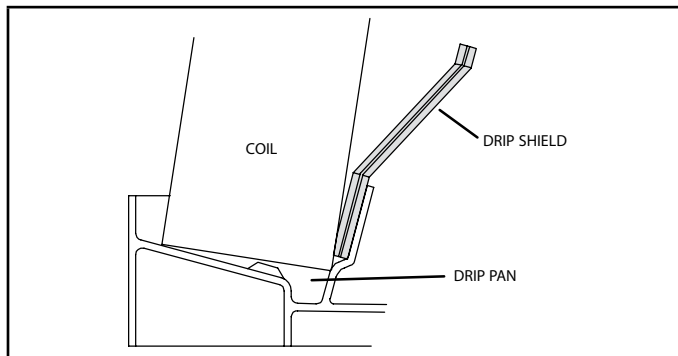

FIGURE 15. Downflow Drip Shields
- 5 - From the underside of the coil, install the downflow drip shield firmly in place as illustrated in figure 15.